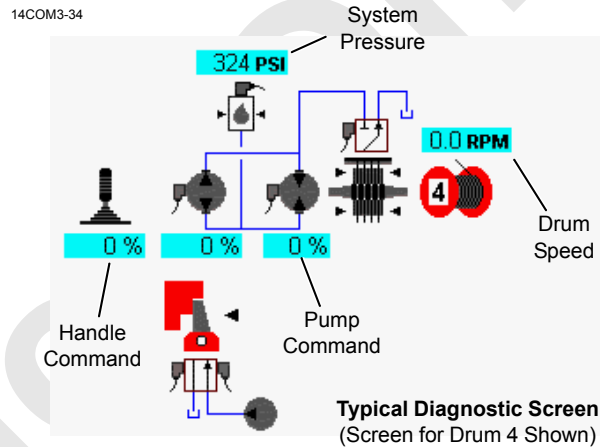

FIGURE 2-15
7. On diagnostic screens (see Figure 2-15), check pump pressures for load drums, boom hoist, swing, and travel pumps:
Check operating speed on the diagnostic screens (Figure 2-15) for swing and each drum with: